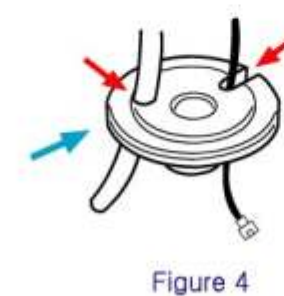

Figure 4
- 4 Tighten the Wing Nut onto the bottom of the threaded faucet stem (as shown in Figure 4). Important Note: Label the diagram showing the Wing Nut onto the threaded stem "Figure 4"